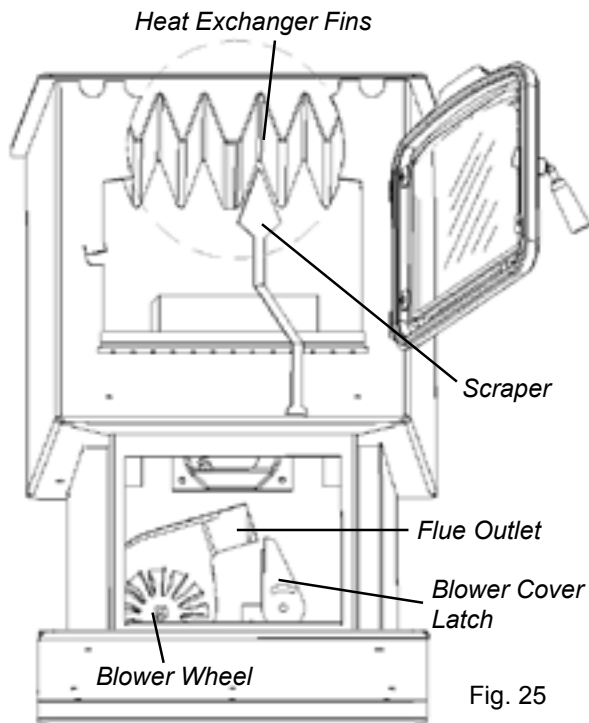

Fig. 25
8. Clean the heat exchanger with the scraper as shown in Fig. 25.